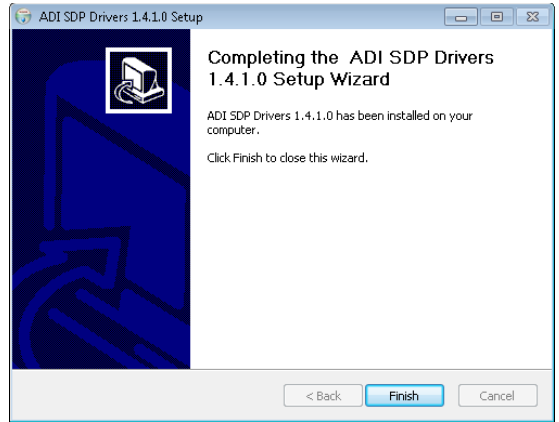

Figure 9. Completion of Installation Window
4. When the SDP drivers installation completes, click **Finish** (see Figure 9).